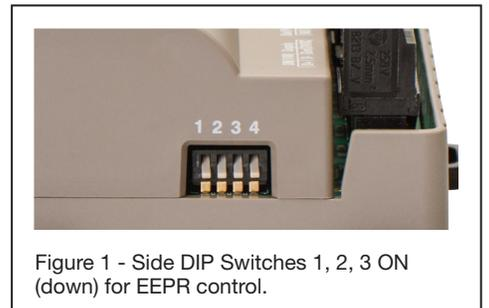

Figure 1 - Side DIP Switches 1, 2, 3 ON (down) for EEPR control.
8. If an Electronic Evaporator Pressure Regulator (EEPR) is used, ensure side DIP switches 1, 2 and 3 are set ON (all down); see Figure 1.